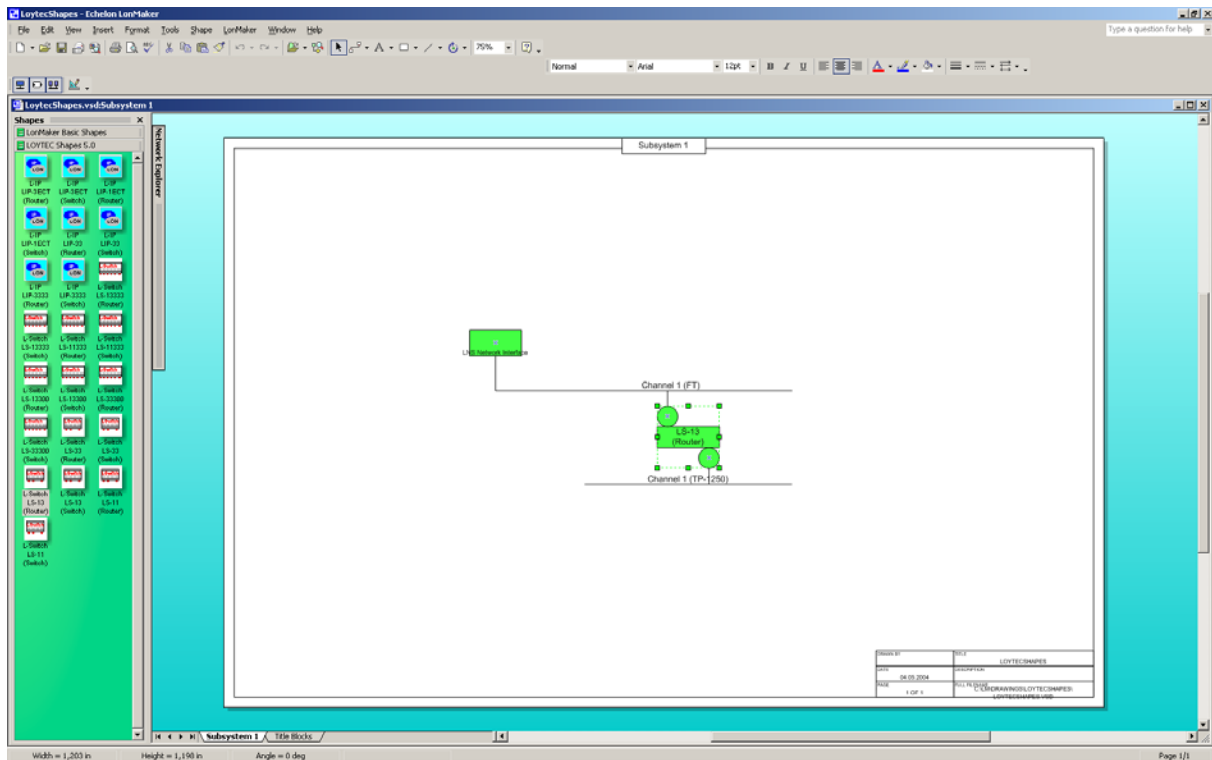

Figure 14: The L-Switch is now commissioned and ready to use
8. After the commissioning process the L-Switch appears green in the drawing (see Figure 14). The L-Switch is now commissioned and ready to forward packets.